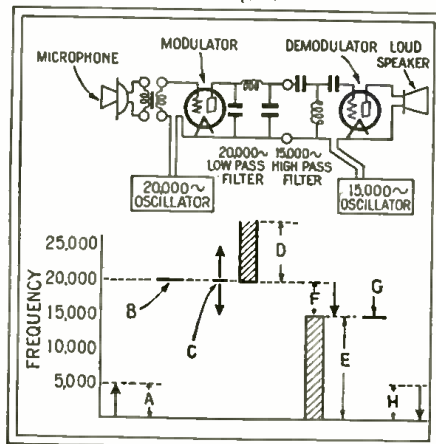

Fig. 3
To avoid this difficulty, it is necessary to separate the direct and inverted speech sufficiently, in frequency, so that they can be filtered apart. A simplified sketch of the arrangement for doing this is shown in Fig. 3. The speech A (in the frequency graph below) modulates a 20,000-cycle carrier B, producing upper and lower sidebands C. After passing through the low-pass (D) and high-pass (E) filters, only the lower sideband G, which is inverted, remains. Demodulating this with a 15,000-cycle carrier G brings the inverted sideband down to natural speech frequency H, but quite free of any content of the original uninverted speech.